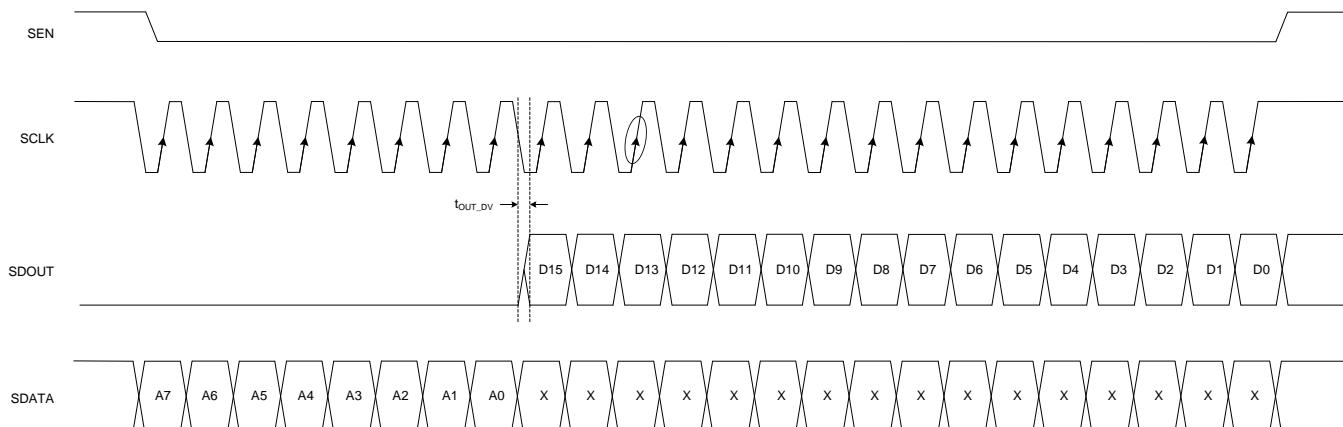

Figure 19. Serial Interface Register Read Timing Diagram
(1) Minimum values are across the full temperature range of  $T_{MIN} = -40^{\circ}\text{C}$  to  $T_{MAX} = +85^{\circ}\text{C}$  and  $AVDD = 3.3\text{ V}$ .
(2) See Figure 19.
The device includes an option where the contents of the internal registers can be read back. This readout may be useful as a diagnostic test to verify the serial interface communication between the external controller and the AFE. First, the REGISTER READOUT ENABLE bit (bit 1, register 00h) must be set to '1'. Then, initiate a serial interface cycle specifying the register address (A[7:0]) to be read. The data bits are *don't care*. The device outputs the contents (D[15:0]) of the selected register on the SDOUT pin. SDOUT has a typical 20-ns delay ( $t_{OUT\_DV}$ ) from the SCLK falling edge. For a lower speed SCLK, SDOUT can be latched on the SCLK rising edge. For a higher speed SCLK (for example, with an SCLK period less than 60 ns), latching SDOUT at the next SCLK falling edge is preferable. Figure 19 shows the read operation timing diagram (timing specifications follow the same information provided in Table 3). In readout mode, REGISTER READOUT ENABLE can still be accessed through SDATA, SCLK, and SEN. To enable serial register writes, set the REGISTER READOUT ENABLE bit back to '0'.